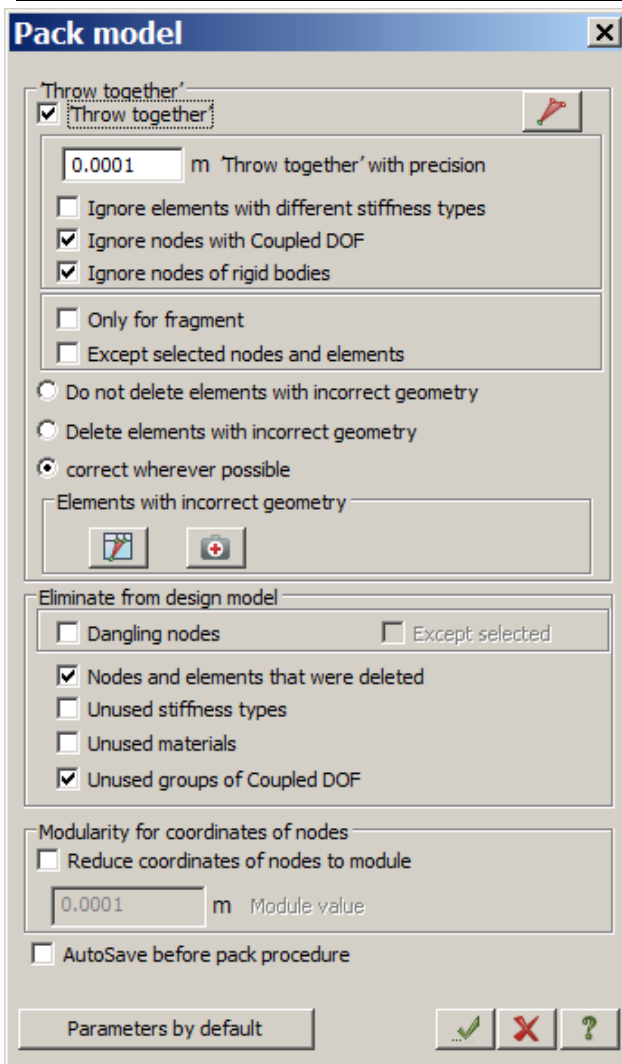

Figure 5.13 Pack model dialog box
- ⇒ In the **Pack model** dialog box (see Fig.5.13), click **Apply** . It is necessary to pack the model in order to 'throw together' coincident nodes and elements and to eliminate (that is, to remove completely) deleted nodes and elements from design model.